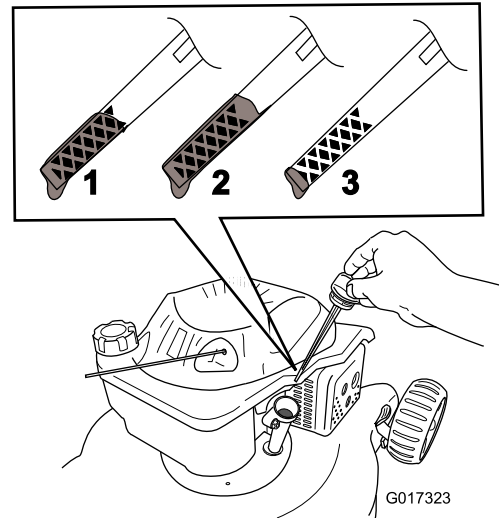

Figure 26
4. Remove the dipstick (Figure 26).
11. Read the oil level on the dipstick (Figure 26).